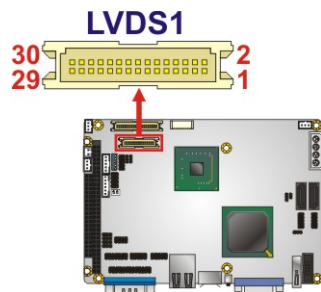

Figure 3-14: LVDS Connector Location
- CN Location:** See Figure 3-14